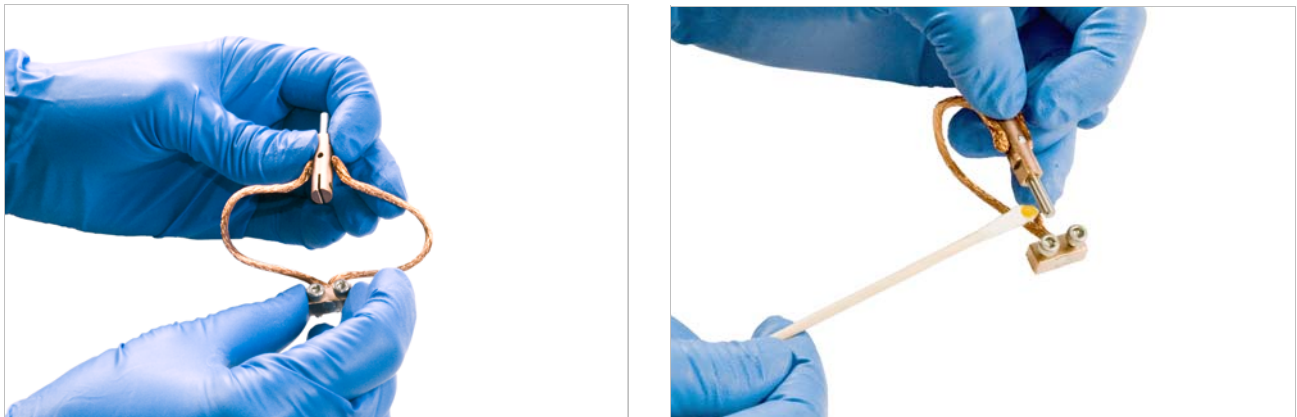

FIGURE 3-29 Left: To install the probe mount, bend the probe mount braids; Right: Apply grease to the end of the dowel
2. Flex the probe mount braids so that the copper braid block will be in approximately the correct position for attachment (FIGURE 3-29).
3. If desired, apply a small amount of Apiezon® N brand grease to the end of the dowel and the bottom of the braid block (FIGURE 3-29). The grease enhances the thermal contact between the probe and the probe arm; however, some users prefer to keep the sample area free of all greases. Specified system performance does not require grease on the bottom of the probe arm braid block or on the probe dowel.